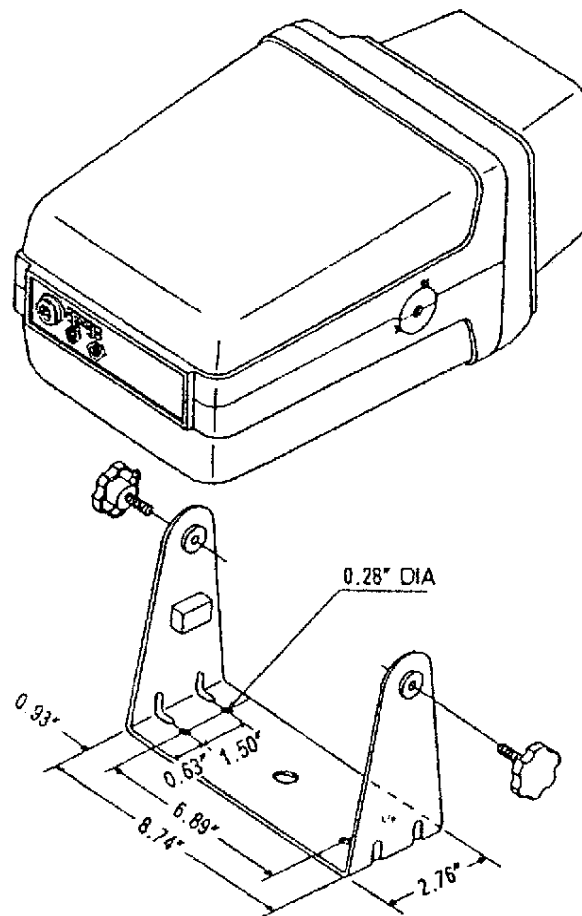

Figure 3. Sounder Mounting Bracket Installation
1. Remove sounder unit from mounting bracket by unscrewing the two clamping knobs. (See Figure 3.)